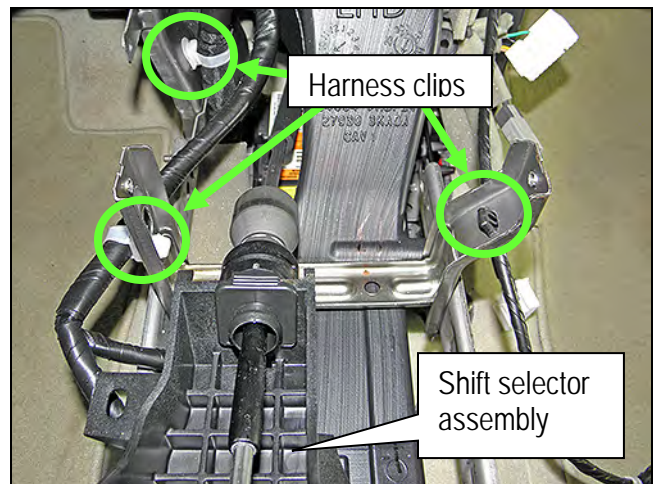

Figure 35B
18. Unclip the three harness clips from the center console brace shown in Figure 35B.